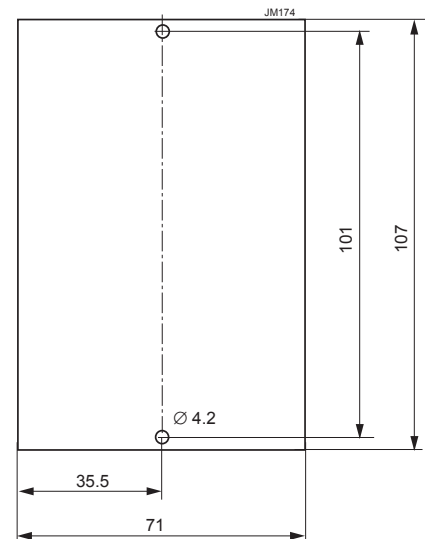

Fig. 18
- PCB isolation pads for easy and safe PCB-mounting; see fig. 18.